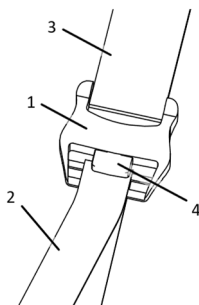

Fig. 21
By pulling on the belt (2) the tension in the straps is tightened and increased, which stabilises the child's position in the seat. If a change in the position of the adjusting buckle (1) is needed, adjust the length of the belt (3). To relieve the tension in the straps, pull the strap (2) away from the buckle with the button (4) pressed. Fig. 21.